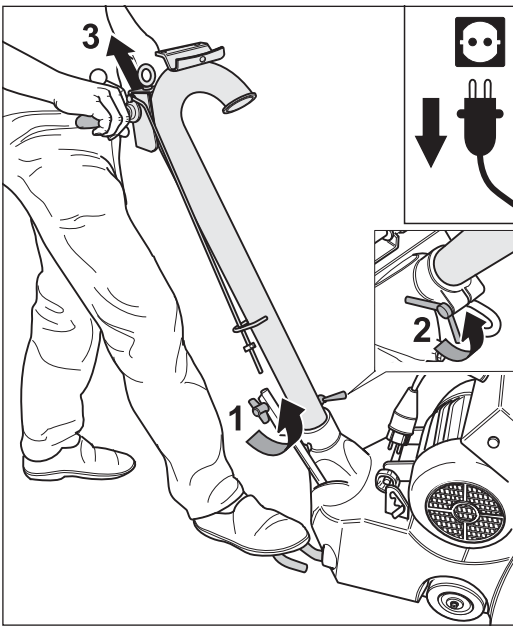

Fig. 55 After opening the wing screw (1) and wing nut (2) which fasten the rod linkage, the guide tube can be drawn out of the machine housing (3).
- 11 Open the wing screw at the lower rod (fig. 55, 1) and the wing nut at the machine housing (fig. 55, 2)
- 12 Pull the guide tube out of the machine housing (fig. 55, 3).